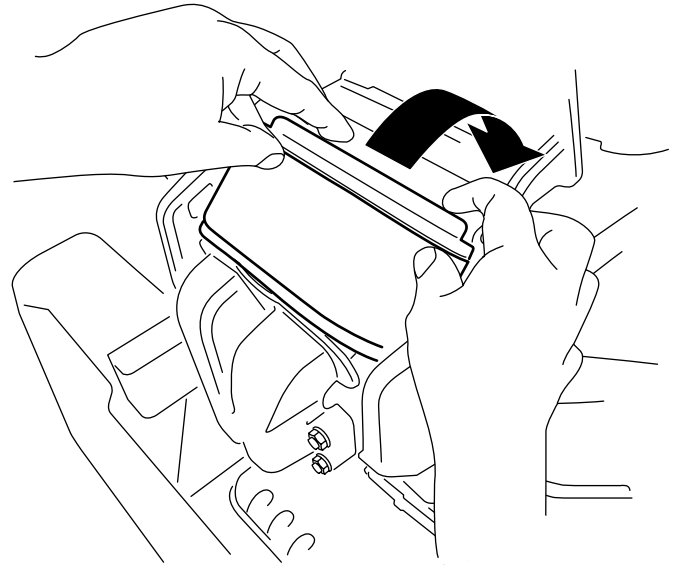

Figure 32
3. Rotate the filter down into the chamber and fully seat it against the manifold (Figure 32).